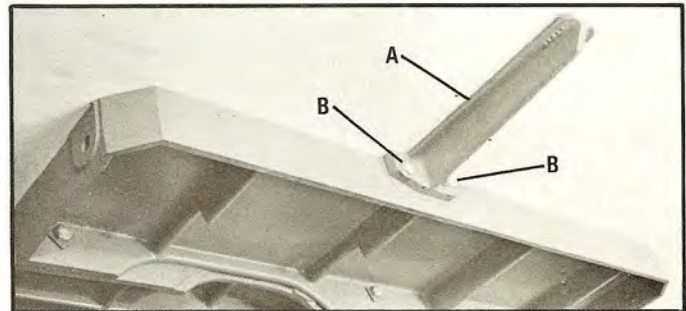

Fig. 9
Assemble the rip fence support (A) Fig. 9, to the table extension using two M10 x 30mm hex head cap screws (B) and 10mm flat washers.